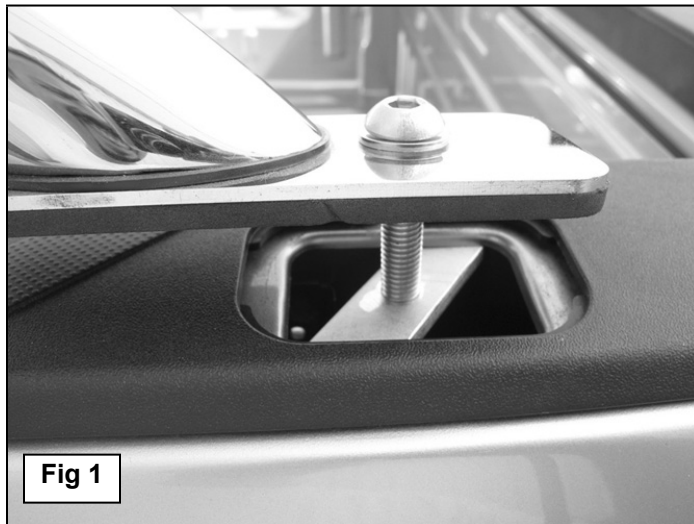

Fig 1
- a. **On vehicles with removable covers:** Remove the small plastic cover over each stake pocket, **(Figure 1)**.